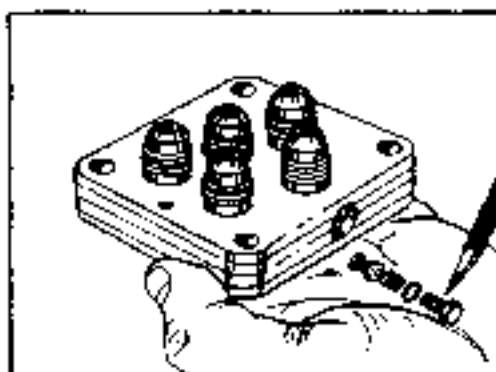

FIGURE 7.
5. If included, remove the loosened plug (6) and O-ring (7) assembly from the port cover. Be ready to catch the steel check ball (5) as it falls from its cavity. Discard O-ring (7). See figure 7.